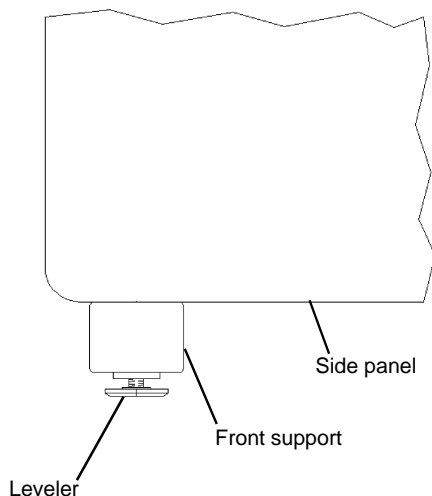

Figure 2
2. Adjust the levelers on the Front Support as required. See **Figure 2**.